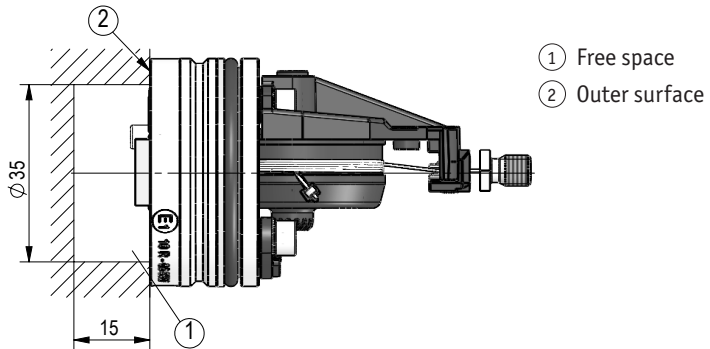

Fig. 3: Mounting free space
- ▶ Observe free space (see Fig. 3). Draw-wire encoder may only be supported on the aluminium outer surface.
1. Plug the cable ① without flange enclosures on the SGH10. When installing, the cable ① (e.g. KV1H) should be directed to the cable outlet from the bottom part of the cylinder.
2. Cautiously press the SGH10 with greased sealing ring ③ into the bottom part of the cylinder. Take care that the plug insert ④ and the cable won't be pinched, but rather that the plug insert be pulled outside through the plug outlet on the bottom part of the cylinder. Join the plug insert with the flange enclosures incl. greased O-ring and screw it 4x at the intended position. The axial securing can be done with a threaded pin ⑤ as shown in fig. 3. Tighten the threaded pin slightly (approx. 0.5 Nm) and then turn back again approx. 0.5 turns. The threaded pin must be sealed depending on the ambient conditions.